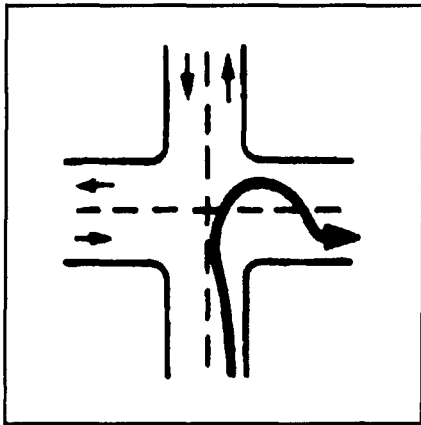

Figure 2-4. Proper right turn
- If you are driving a truck or bus that cannot turn right without swinging into another lane, turn wide as you complete the turn (see Figure 2-4). Keep your vehicle's rear close to the curb. This will stop other drivers from passing you on the right.